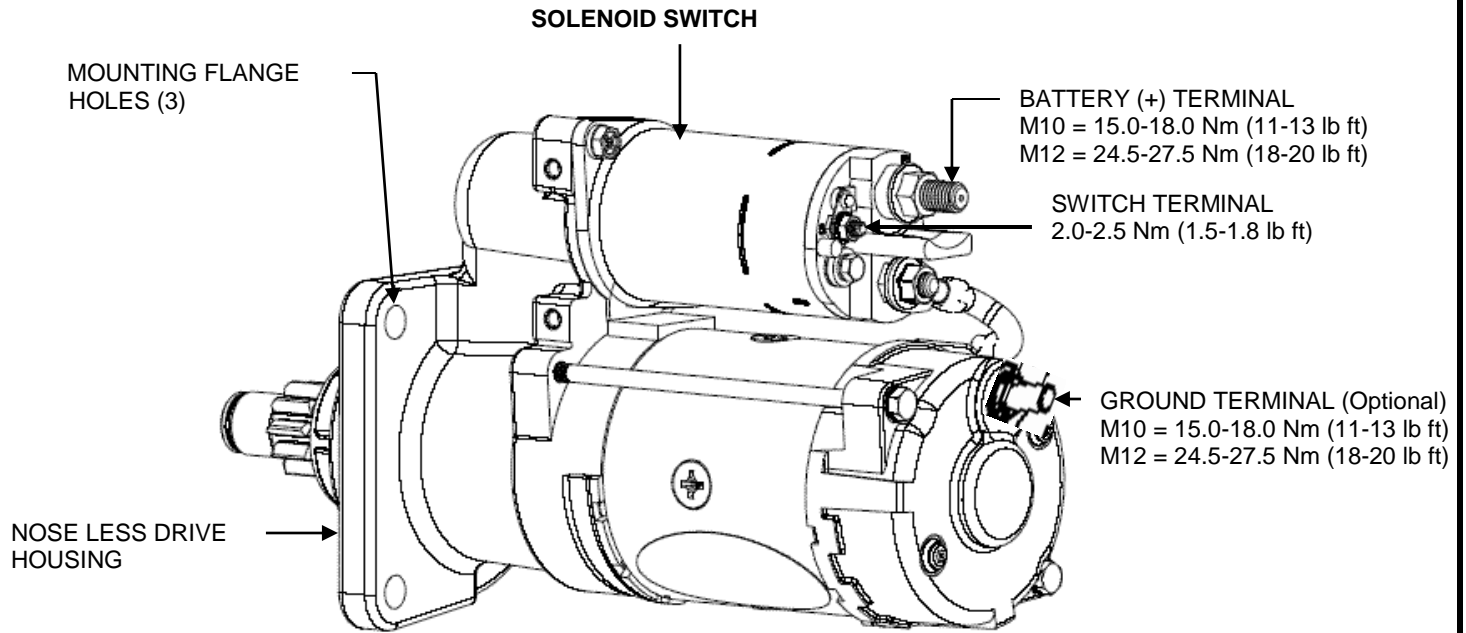

FIGURE 1
REPLACEMENT PROCEDURES (See figures 1 & 2, page 2)
9. Connect cables to solenoid battery (+) terminal as removed from the old starter. See figure 1 or 2 for torque specs.